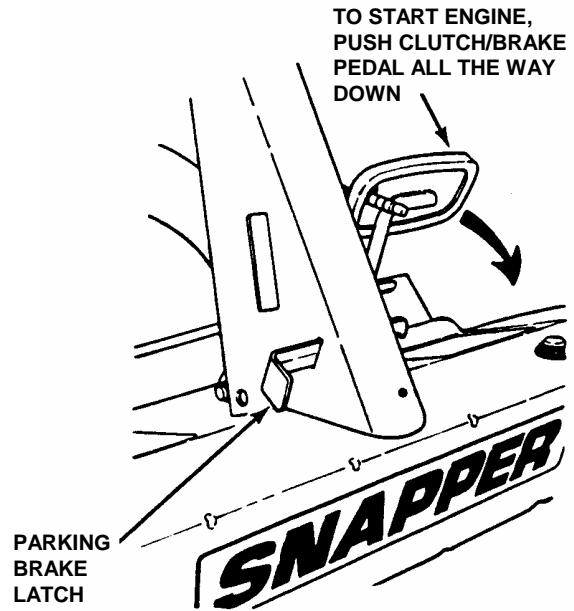

FIGURE 2.5
IMPORTANT: When the ignition key is turned to "START", the engine will turn over, but will not start unless the Clutch/Brake pedal is pressed all the way down, the Blade Lever is in the "Off" position (See Figure 2.5). The operator should be in the seat. Start engine as follows:
3. Press Clutch/Brake Pedal all the way down and hold while starting engine. See Figure 2.5.